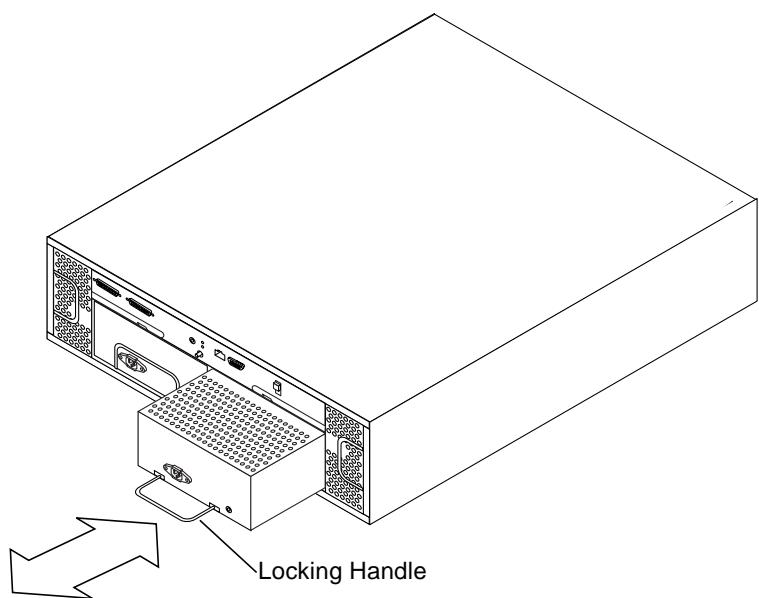

FIGURE 3-4 Removing and Replacing a Power Supply
2. **Pull the locking handle down and slide the power supply out of the bay (FIGURE 3-4).**